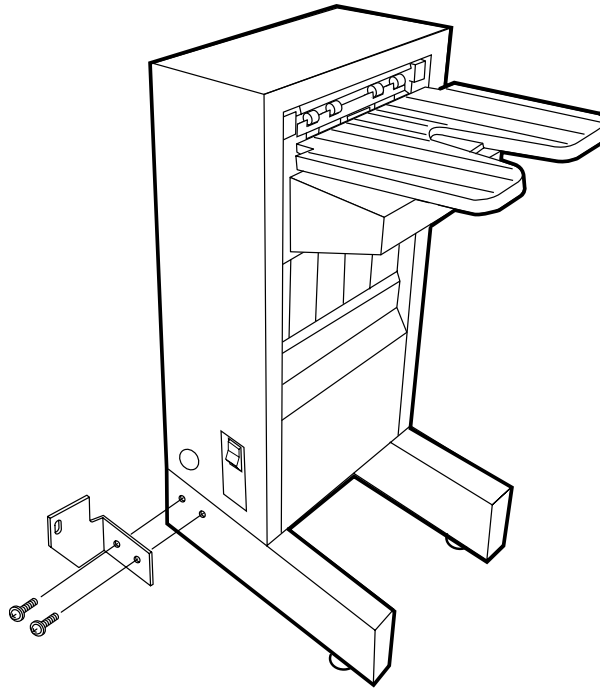

Figure 4-27 Attaching Bracket A
1. Attach bracket A to the bottom of the HCO. Secure the bracket with the two M4 x10 screws as shown in Figure 4-27.